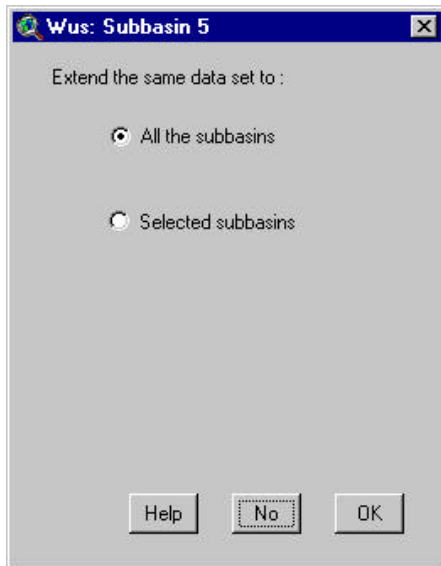

Figure 12.40
4. If the user saves the modified values, once the values are saved for the subbasin (by clicking **OK** in Step 3), a new dialog box is displayed allowing the user to copy the modifications to other subbasin data sets (Figure 12.40).